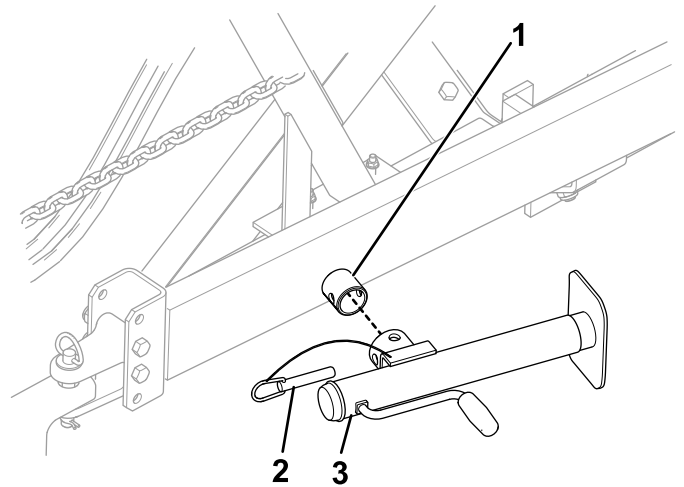

Figure 16
1. Remove the pin from the jack and storage tube (Figure 16).